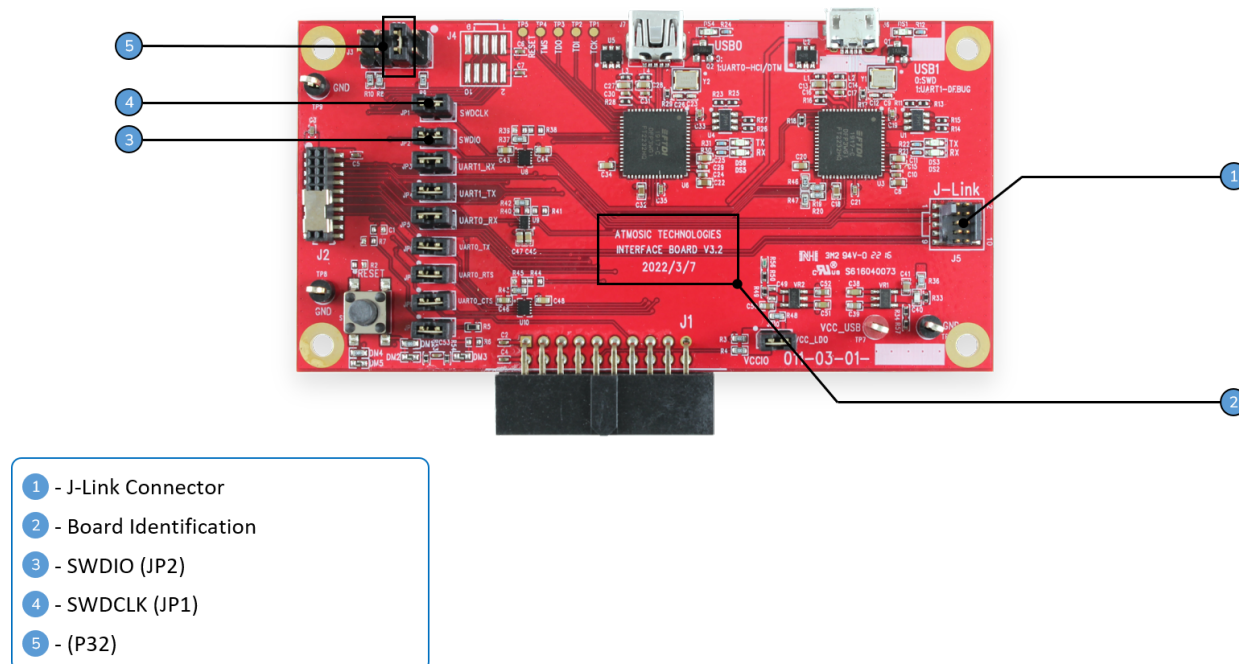

Figure 4 - Atmosic Interface Board V3.x
- 2) Remove jumper for P32 on J3 header (J3 is Boot Mode connector, see item 5 in Figure 4)
- 3) Remove jumper for SWD (see items 3 and 4 in Figure 4)
- 4) Connect Jlink adapter board (see item 1 in Figure 4)